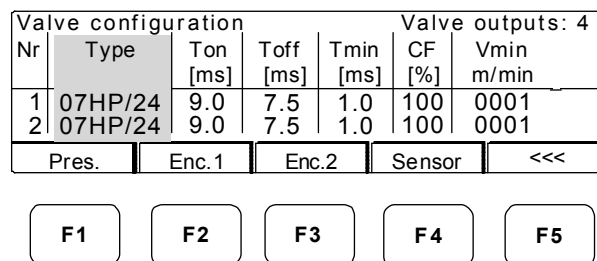

Figure 8-4. Type Column
2. Move the cursor to the “type” column (Figure 8-4).